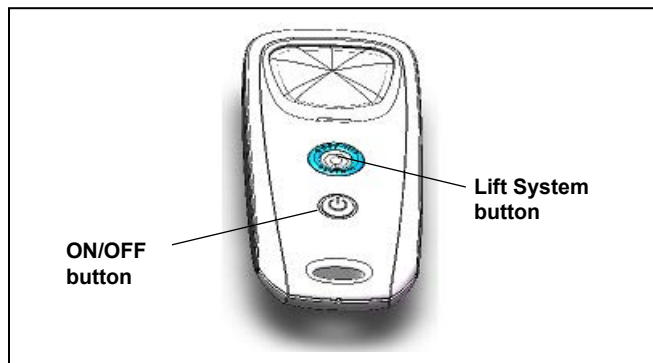

Figure 20. 9500 Sport/P95 Remote Control
Press  (see Figure 20) and hold for 3 seconds.
- To remove the cleaner from the pool using the remote control, press  (see Figure 20).